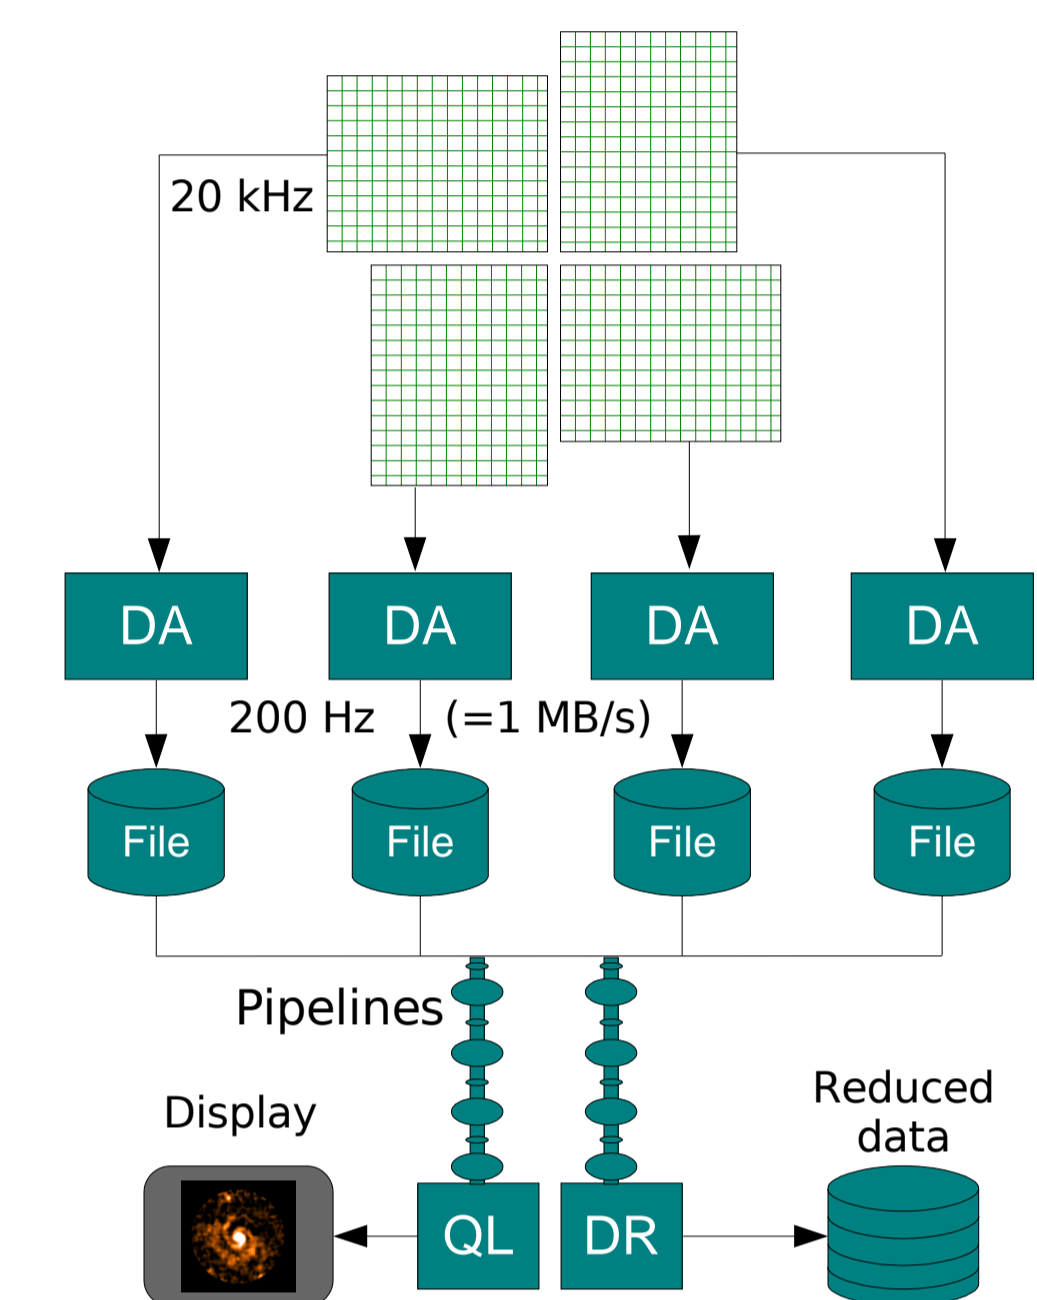

Figure 5: Schematic data flow for one of the bolometer arrays
The key challenge for dealing with data from SCUBA-2 is the high read-out and data storage rate – up to 200 frames per second for each subarray at each wavelength. The internal data acquisition (DA) electronics sample at 20 kHz. A schematic view for one wavelength is shown in **Figure 5**. The uncompressed file size is approximately 1 MB per 40x32 pixel subarray for a total output of 8 MB/s for both wavelengths, or roughly 0.5 TB per night of observing (16 hours). Data compression will reduce these values by a factor of ~ 2 .